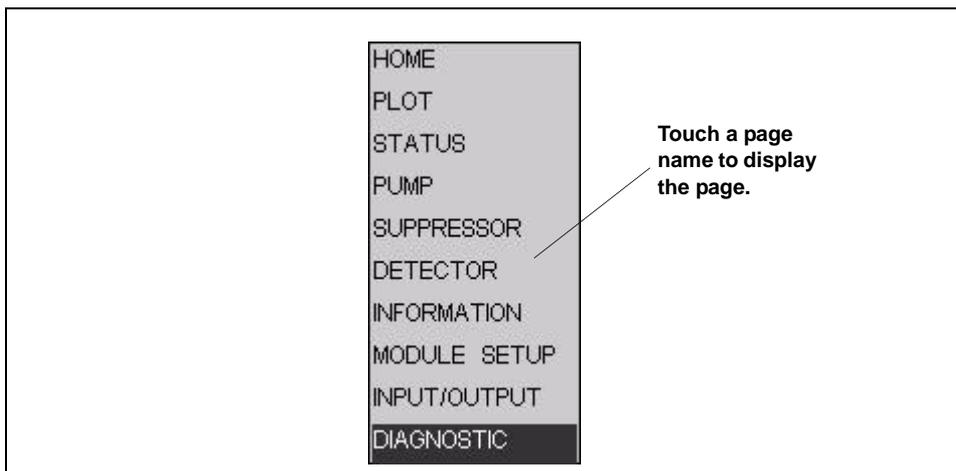

Figure 2-4. ICS-1500 Touch Screen Menu of Pages
- Touching the page name (for example, ) in the bottom right corner opens a menu of pages (see Figure 2-4).